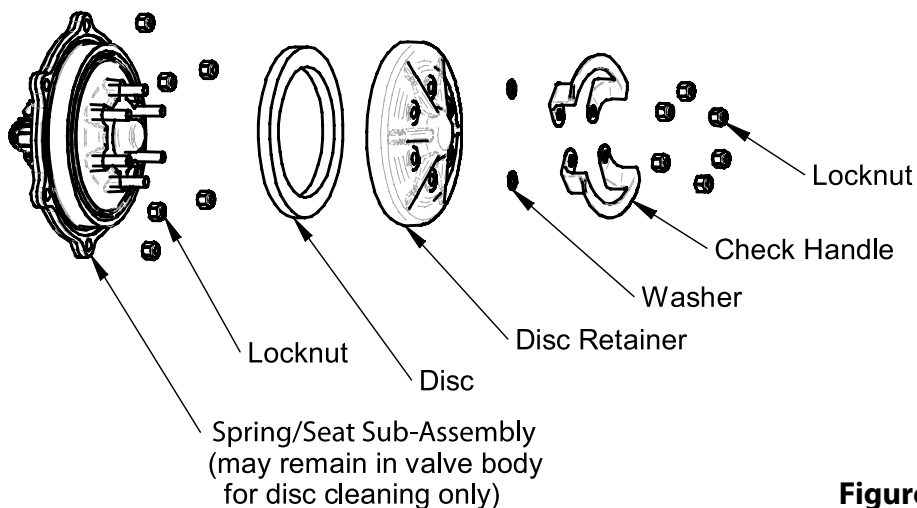

Figure 9
If only cleaning of either check is necessary, simply remove the six (6) nuts for 8" valves / eight (8) nuts for 10" & 12" valves on the black plastic disc retainer (See Figure 9). *SUGGESTION: Place a rag over the relief valve opening inside the valve body to prevent the locknuts from falling into the relief valve.* Remove the check handle and washer and lift the disc retainer and disc out of the body. Rinse the disc with clean water or replace if necessary. The disc may be flipped over for a temporary repair, but should be replaced if damaged. Replace the disc, disc retainer, washer, handle, and nuts. **Do not over tighten locknuts.**